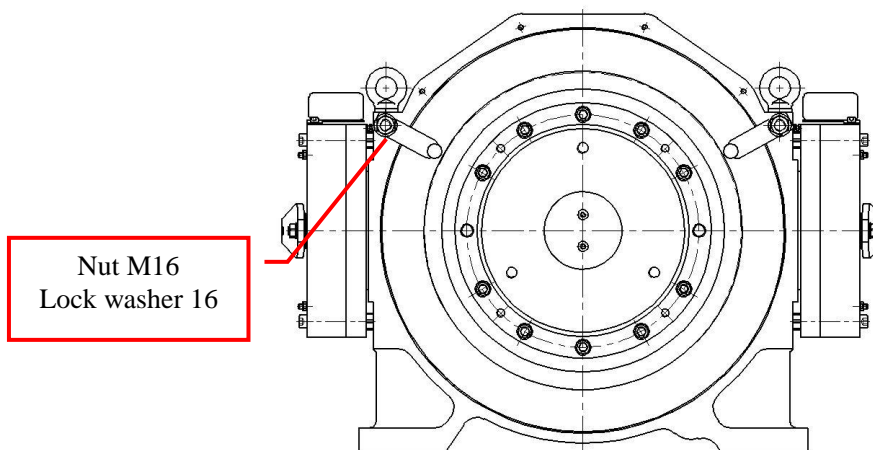

Figure 41: Reinstall Rope retainers
6. Reinstall the rope retainers by installing the thin nut M16 onto the screw M16×70, then screw the screw M16x70 into the corresponding threaded hole of the machine base (screw in about 20mm), and then tighten the thin nut M16 with open-ended wrench (24mm). Install the rope retainer onto the screw M16×70, and screw on the nut M16 and lock washer 16 to secure the rope retainer. See Figures 41 and 42.